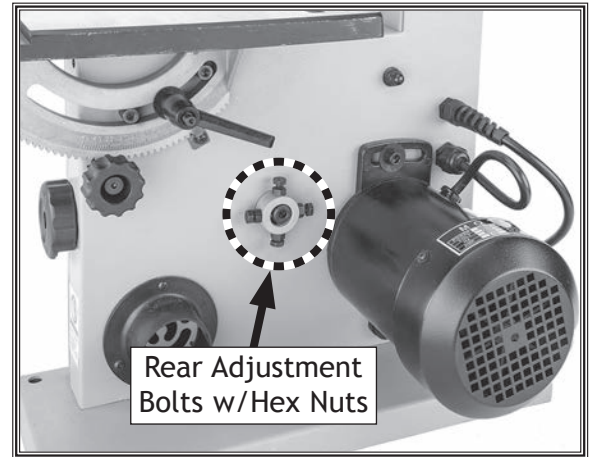

Figure 50. Location of rear lateral adjustment components.
There are four adjustment bolts with hex nuts in the lower wheel bracket, shown in **Figure 50**, that adjust the wheel tilt from side-to-side and up-and-down.
5. Using 10mm wrench, loosen hex nuts on rear left and right adjustment bolts (see **Figure 50** on **Page 46**).